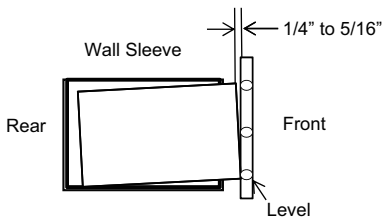

Fig.1
- When installation is complete, replacement unit must have rearward slope as shown in Fig 1.